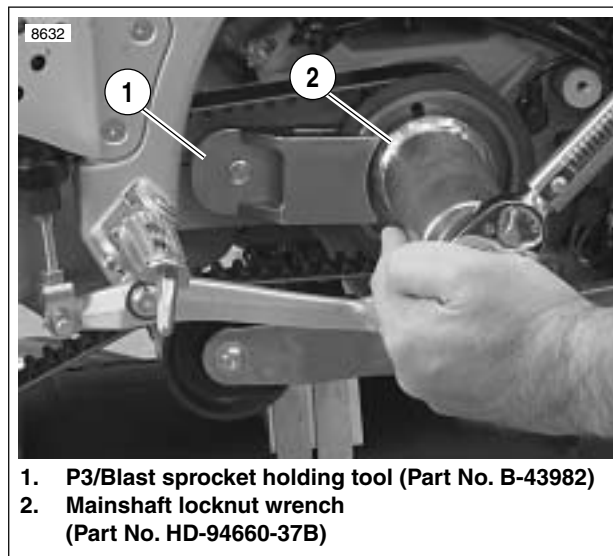

Figure 6-98. Transmission Sprocket Tightening
5. See Figure 6-98. Install the P3/Blast SPROCKET HOLDING TOOL (Part No. B-43982) as shown.